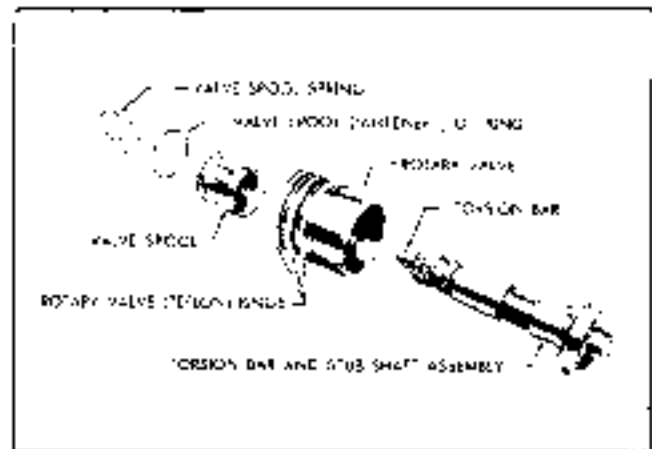

Fig. 9-56 Exploded View of Rotary Valve
4. Assemble stub shaft assembly in valve body aligning groove in valve cap with pin in valve body (Fig. 9-56). Press on cap until cap is against shoulder in valve body with valve body pin in cap groove. Hold these parts together during remainder of assembly.